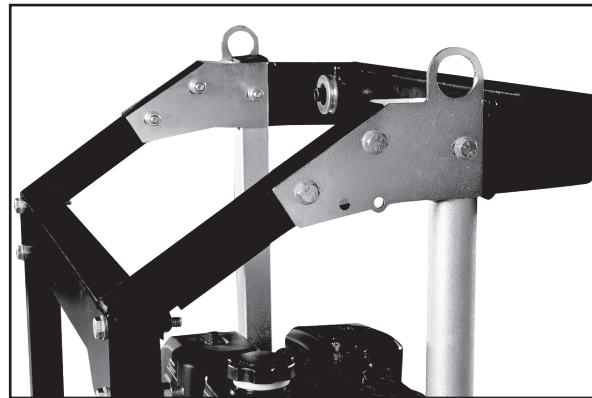

Fig. 32
Step 19: Secure the Rear Crossbeam to the Front Crossbeam, Fig. 32. Place the Crossbeam Outer Clamp Plate onto the outside of one side and align the bolt holes to the holes on the Rear Crossbeam. Insert two M10x70 bolts with flatwashers through the clamp plate and through the Crossbeam Inner Clamp Plate. Place a flatwasher, lock washer, and nut onto the bolts. Align the third hole on the Crossbeam Outer and Inner Clamp Plates to the hole on the vertical support. Note: It may be necessary to loosen the M12 bolts at the base of the vertical support. Insert another M10x70 bolt with flatwasher through the hole in the vertical support and secure in place using a flatwasher, lock washer, and nut onto the bolt. Tighten all fasteners on both the Rear and Front Crossbeam.